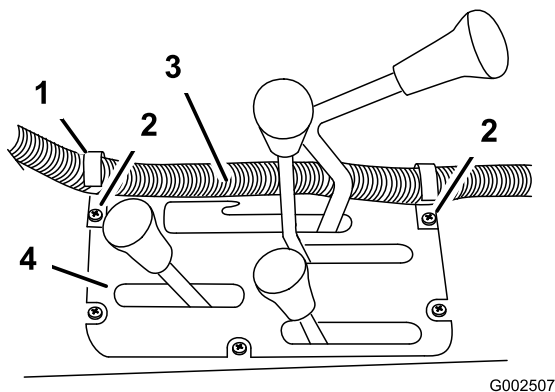

Figure 26
6. Install two J-clips in the center console at the points located in Figure 26 using the existing screws.